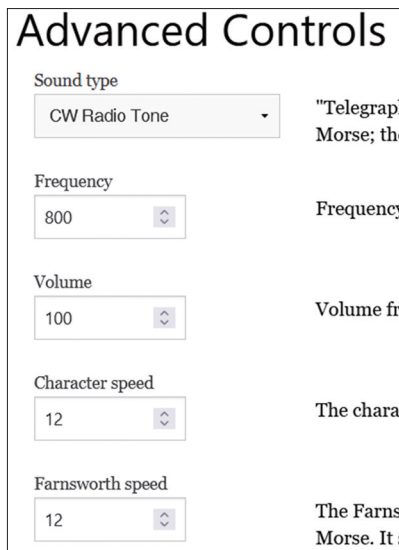

Figure 4.62: Configure the apps.
- Click **Configure** and set it to 12 wpm, 800 Hz tone, and maximum volume of 100 as shown in Figure 4.62.